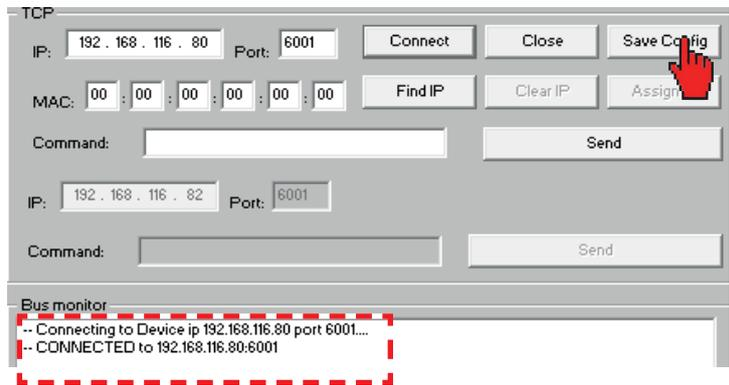

Fig. 19.15: Saving the configuration
- 5. If the BCS is connected to the computer you are using, a “CONNECTED to x.x.x.x” message appears (see Fig. 19.15). Click on **Safe Config**.